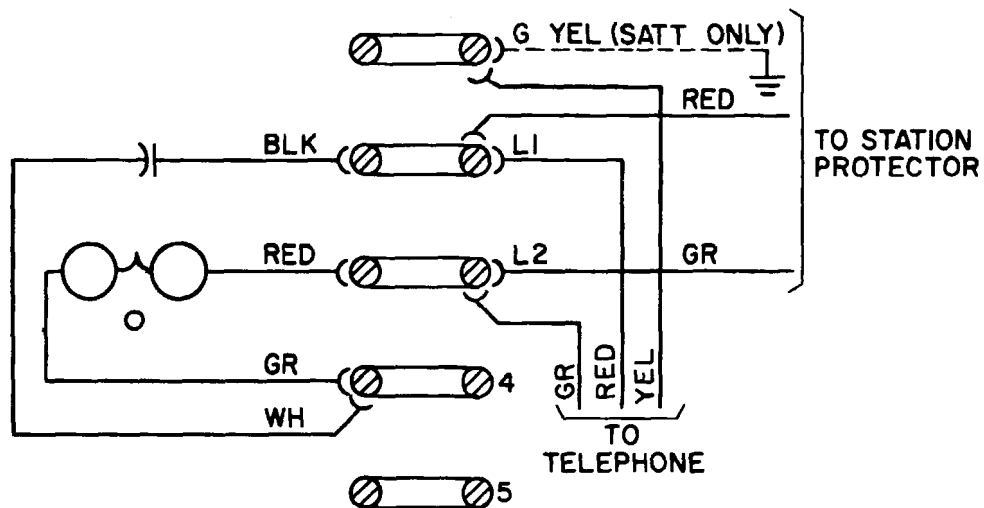
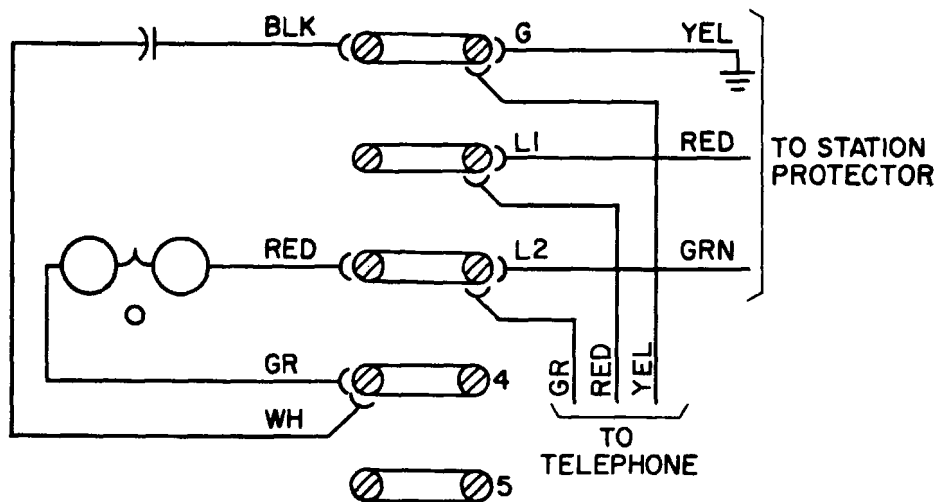
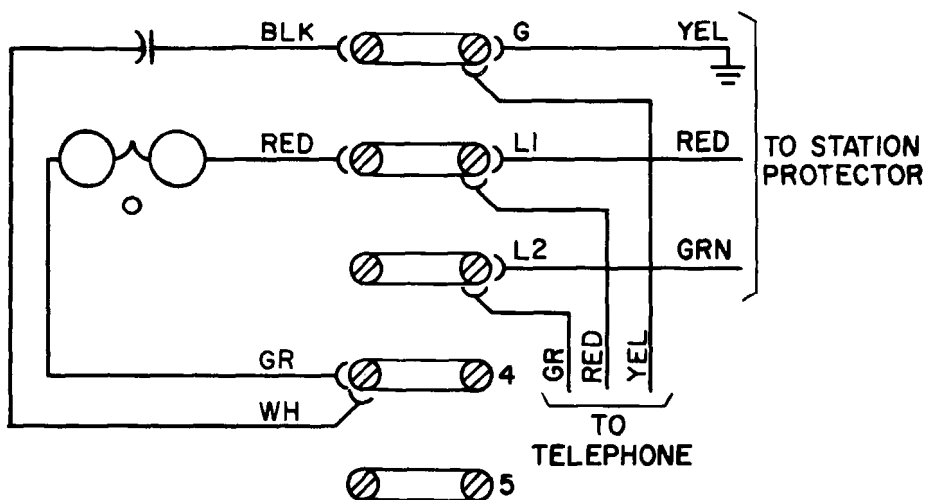
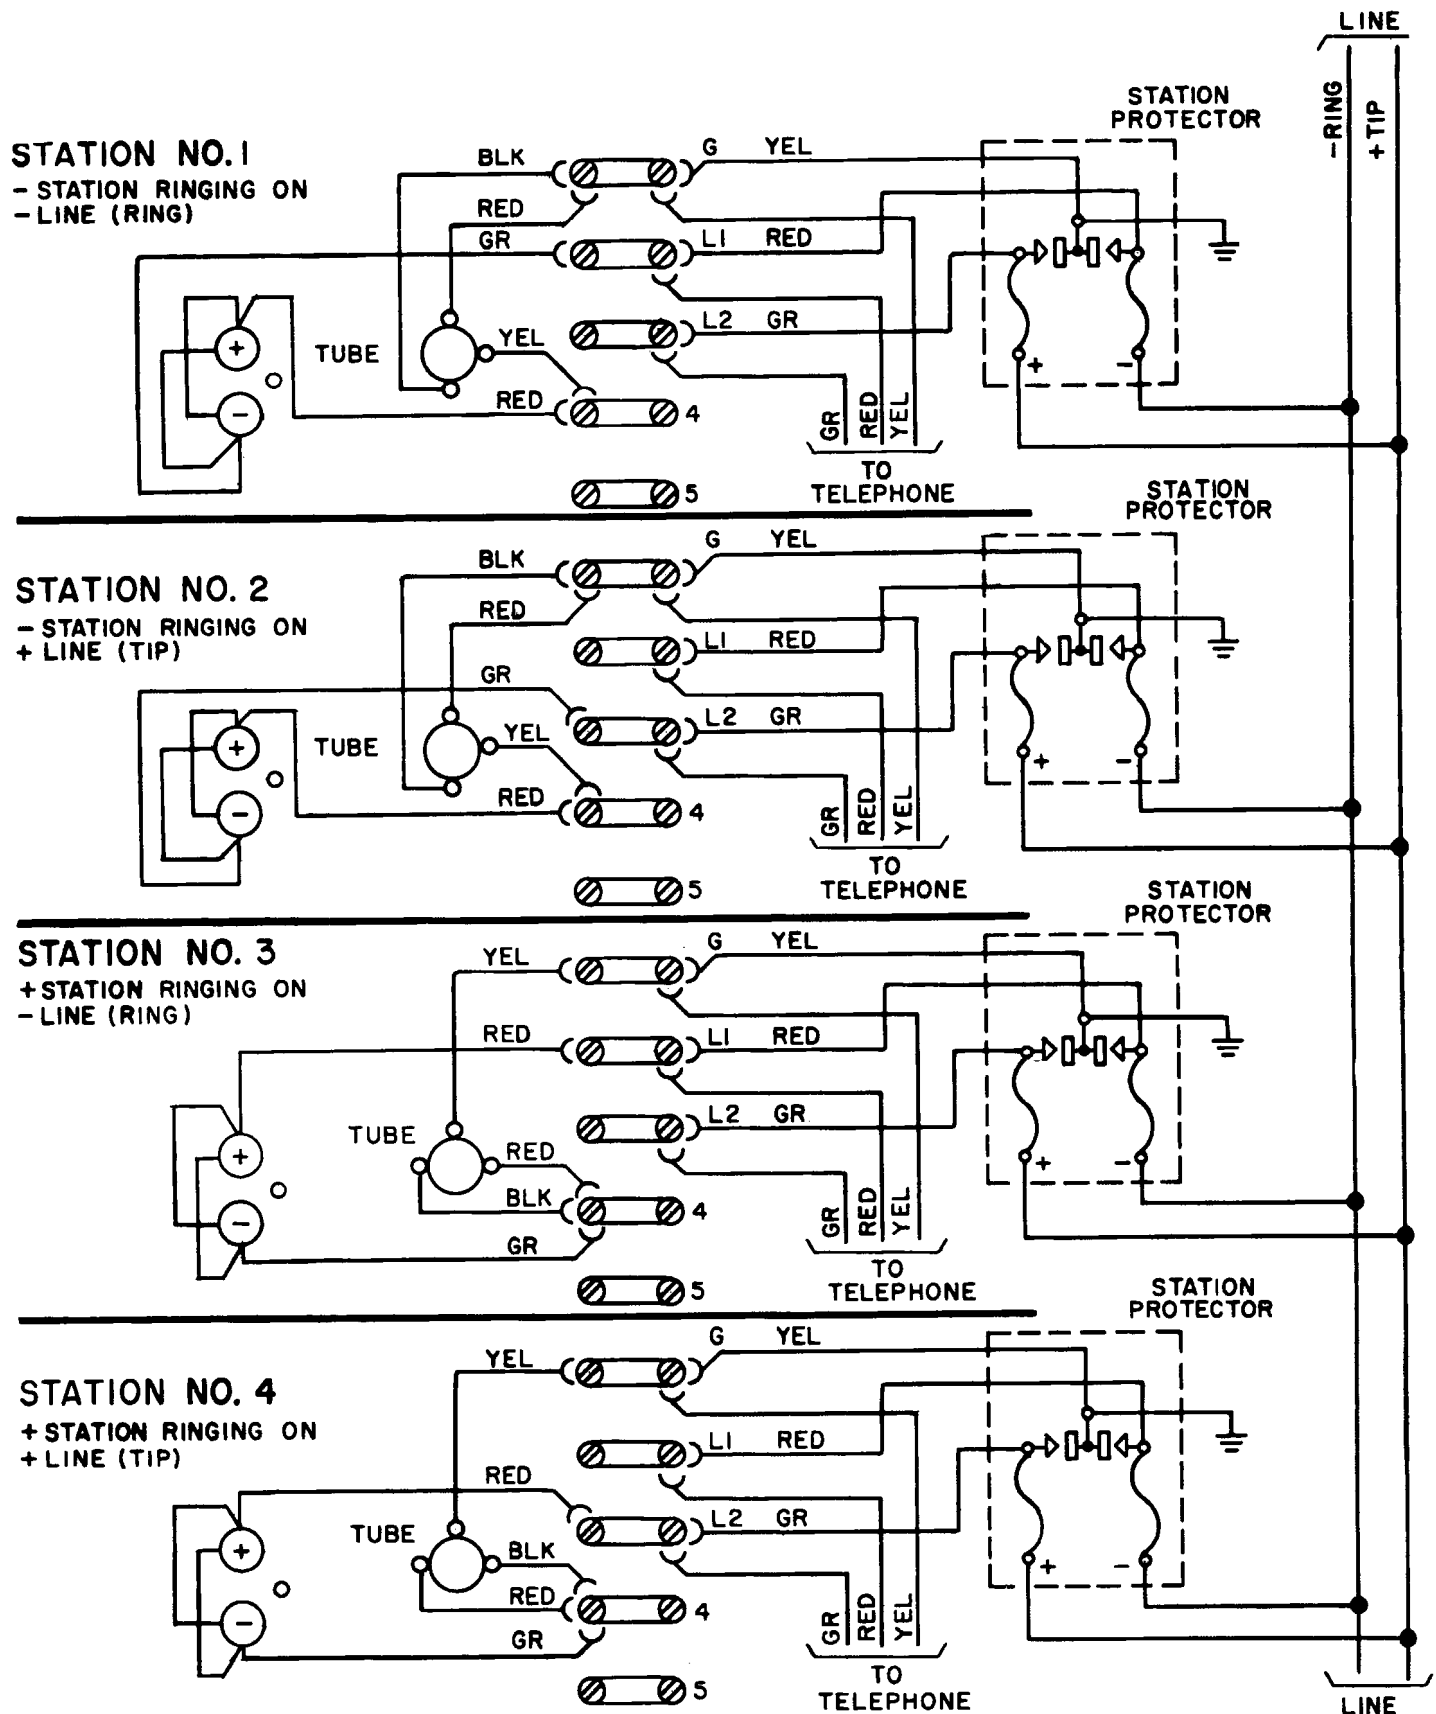

Figure 7. Type 33 ringer unit wiring for bridged ringing.
Figure 8. Type 33 ringer unit wiring for divided + (tip) ringing.
Figure 9. Type 33 ringer unit wiring for divided - (ring) ringing.
Figure 10. Type 33 ringer unit wiring for superimposed ringing.
- a. Bridged ringing. The connections for bridged ringing are shown in figure 7 and are summarized in the following steps:
- (1) Connect the black capacitor wire to ringer box terminal L1.
- (2) Connect the red ringer wire to ringer box terminal L2.
- (3) Connect the green ringer wire and white capacitor wire to ringer box terminal 4.
- (4) Connect the red interior wire and the red telephone line cord wire to ringer box terminal L1.
- (5) Connect the green interior wire and the green telephone line cord wire to ringer box terminal L2.
- (6) Connect the yellow telephone line cord wire to ringer box terminal G.
- (7) For SATT service connect the yellow interior wire to ringer box terminal G.
- (8) Slip the telephone line cord strain relief clamp under the strain relief clamp screw (in the ringer box base-plate) and tighten the screw.
- (9) Fasten the plastic housing to the base-plate (see section 2.4.2).
- b. Divided ringing on the +(tip) line. For divided ringing on the +(tip) line refer to figure 8 and follow these steps:
- (1) Connect the black capacitor wire to terminal G.
- (2) Connect the red ringer wire to terminal L2.
- (3) Connect the white capacitor wire and green ringer wire to terminal 4.
- (4) Connect the red, green, and yellow telephone line cord wires and the interior wires to terminals L1, L2, and G respectively.
- (5) Fasten the telephone line cord clamp to the strain relief clamp screw.
- (6) Fasten the plastic housing to the base-plate (see section 2.4.2).
- c. Divided ringing on the -(ring) line. For divided ringing on the -(ring) line refer to figure 9 and follow these steps:
- (1) Connect the red ringer wire to terminal L1.
- (2) Connect the black capacitor lead to terminal G.
- (3) Connect the green ringer wire and white capacitor wire to terminal 4.
- (4) Connect the red, green, and yellow telephone line cord wires and interior wires to terminals L1, L2, and G respectively.
- d. Superimposed ringing, station No. 1. For superimposed ringing at station No. 1, refer to figure 10 and follow these steps:
- (1) Connect the red ringer wire and yellow tube lead to terminal 4.
- (2) Connect the black tube lead, red tube lead, yellow telephone line cord wire, and yellow interior wire to terminal G.
- (3) Connect the green telephone line cord wire and green interior wire (from station protector) to terminal L2.
- (4) Connect the green ringer wire, red telephone line cord wire, and red interior wire to terminal L1.
- e. Superimposed ringing, station No. 2. For superimposed ringing at station No. 2, refer to figure 10 and wire the ringer unit as follows:
- (1) Follow steps (1) and (2) in paragraph d, above.
- (2) Connect the green ringer wire, green telephone line cord wire, and green interior wire to terminal L2.